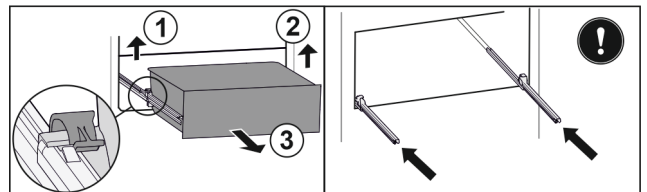

Fig. 96
- ▶ Lift left clamp and simultaneously pull drawer forwards on the left. Fig. 96 (1)
- ▶ Lift right clamp and simultaneously pull drawer forwards on the right. Fig. 96 (2)
- ▶ Remove drawer to the front. Fig. 96 (3)